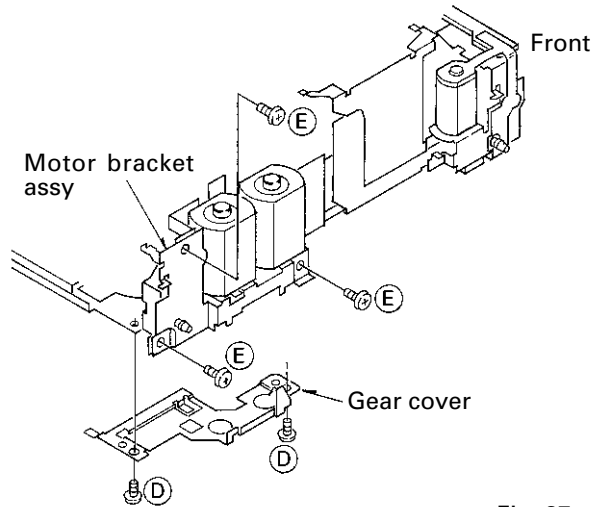

Fig. 37
- Remove the Gear cover. (Fig. 37)
2. Unhook the Spring (C). Remove the Door-open lever.
3. Loosen the screws (D), (E), and (F). Remove the PCB (C) and (D), and the frame.
4. Unhook the springs (A) and (B).
6. Unhook the spring (G). Remove the belt (large).
7. Loosen the screw (H). Remove the Load arm assy